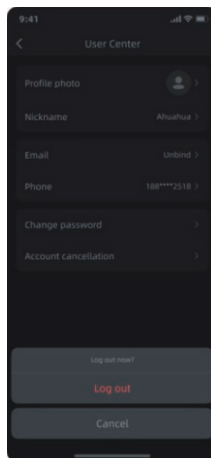

Figure 12
12) Figure 12: Click "**Log out**" to return to the login page;Click "**Cancel**" to keep the current login status.